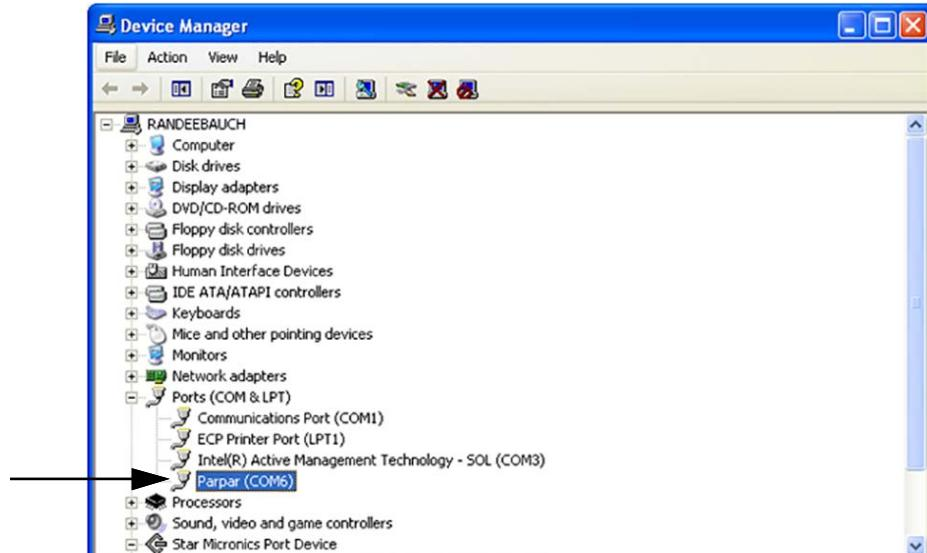

Figure 5-4. Device Manager
- To verify the installation, view the driver by looking at the device manager (Figure 5-4). The port assigned to that driver is displayed.